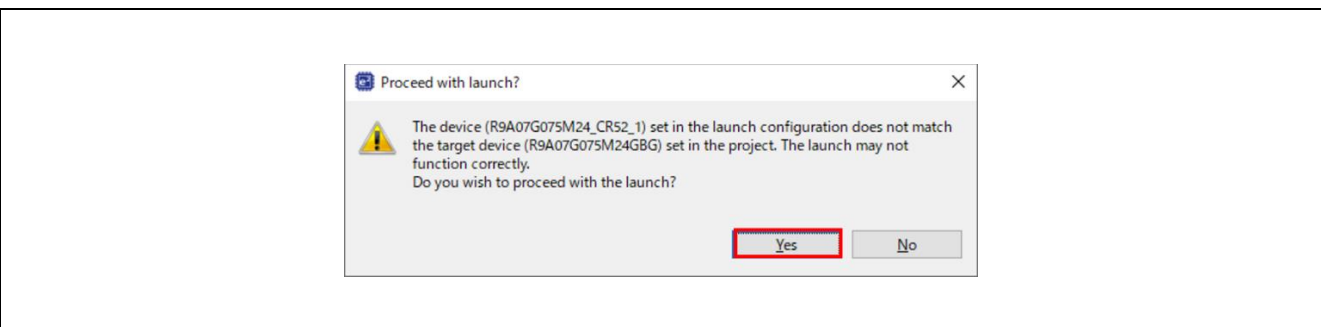

Figure 35 Warning Window of Device Name
4. When Figure 35 is shown, please click **Yes** to proceed the launch.